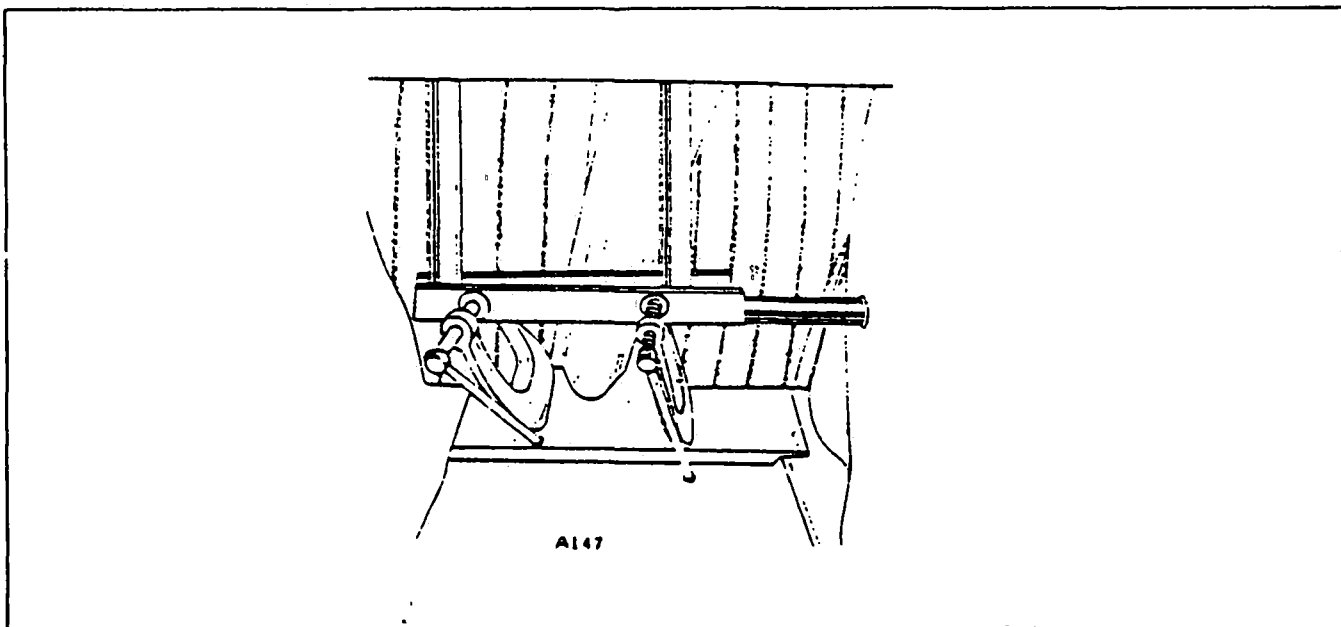

Figure 5-11. Clamping Rudder Pedals In Neutral Position
2. Clamp the rudder pedals to align in a lateral position as shown in Figure 5-11.